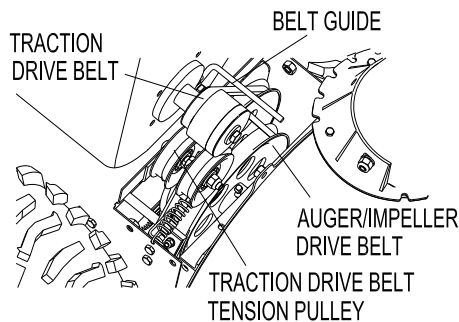

FIG 17
6.11.2 Remove the auger/impeller drive belt. (FIG 17)
6.11.3 Loosen the traction drive belt tension pulley. (FIG 17)
6.11.4 Remove the traction drive belt. (FIG 17)